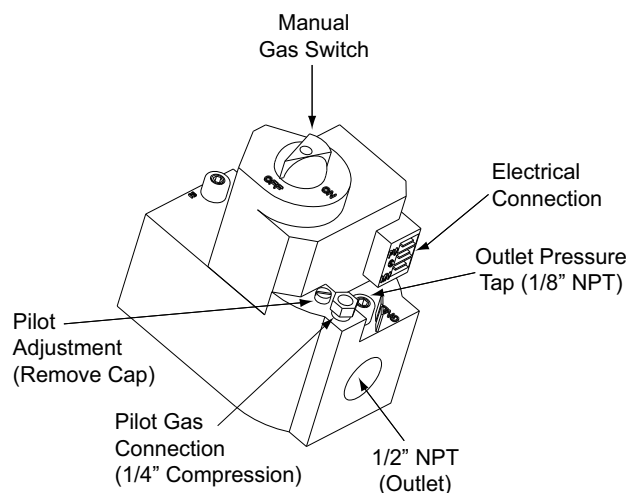

Figure 13: Single Stage Gas Valve Front
Small adjustments to the gas flow may be made by turning the pressure regulator adjusting screw on the automatic gas valve. Refer to Figures 13 and 14.
1. Remove the cap from the valve body. See Figures 13 and 14 for location.